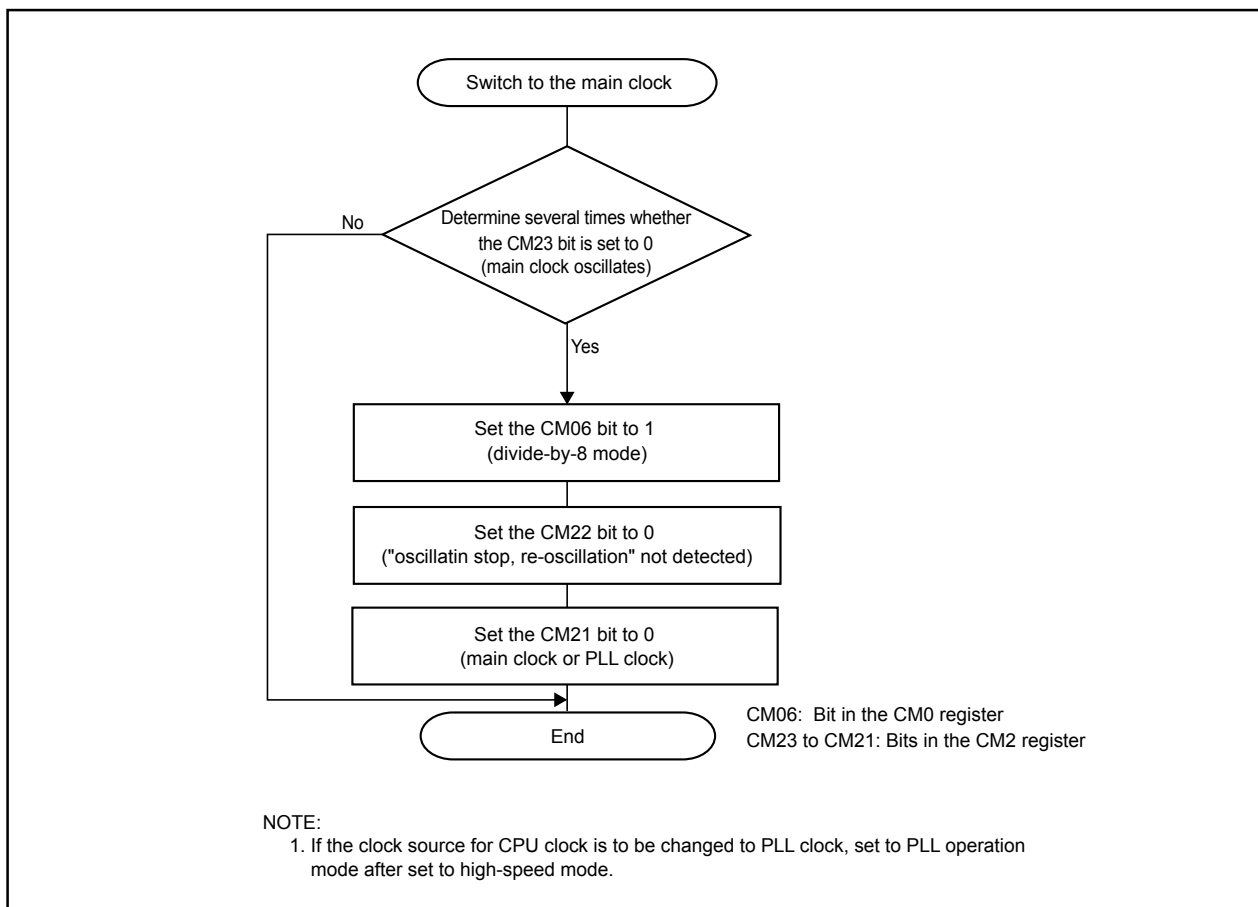

Figure 7.13 Procedure to Switch Clock Source From On-chip Oscillator to Main Clock
- When the main clock re-oscillated after oscillation stop, return the main clock to the CPU clock and peripheral function clock source by program. **Figure 7.13** shows the procedure for switching the clock source from the on-chip oscillator to the main clock.